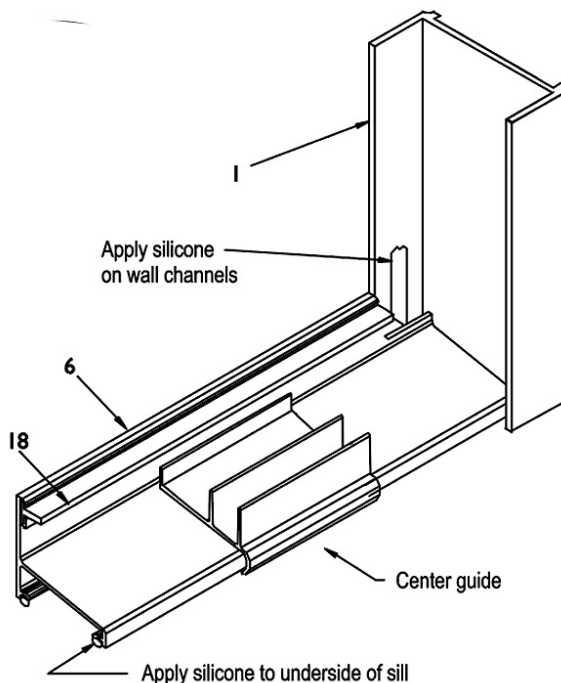

FIGURE 2
1. Set wall jamb (1) in place on walls, centering bottom of jambs on rim of tub. Hold plumb and mark walls for screw holes.
2. Remove and drill 3/16" diameter holes in walls (use a carbide tipped drill bit for tiles walls). Insert plastic wall anchors (2) into holes. Silicone where the wall meets the rim of the tub to seal the bottom of jamb. Set jamb in place and secure to the wall with #8 x 1-1/4" screws (3). Secure bottom bumper (4a) on shower head/inside side with the bottom wall jamb screw (3).
3. Cut sill (6) 7/16" smaller than the slider opening. Run a bead of silicone full length to the undersides of sill (6) and apply silicone to inside of jamb where jamb meets tub. On the inside of jamb, run an 1/4" bead of silicone 1-1/4" up the outside leg of each wall jamb (See Figure 2). Set sill in place, then press firmly to rim of tub. Wipe off any excess silicone before curing.
4. Hold 180-Degree post (19) in place over end of guide and measure from post to wall to arrive at curb channel length. Cut curb channel (20) to length and set in place weep holes(s) to inside. Apply a bead of silicone to underside of curb channel and insert post curb key (22) into end of curb channel.
5. Set wall channel (21) on curb channel, hold plumb and mark the wall for screw holes. Remove wall channel, drill holes into the wall and insert screw anchors. Fill curb channel with silicone where curb channel meets wall. Set wall channel in place and secure with #8 x 1-1/4" screws (3). Secure clip (23) to top inside leg of wall channel with #6 x 1/4" screw (27).
6. Place glass support block (24) in center of the curb channel. Set panel (25) into place in curb channel into wall channel. Using the vertical seal vinyl (26) tack panel into place.
8. Cut header (8) to length and set in place over jamb, post and wall channel. Hold post plumb and secure to INSIDE leg of header with #6 x 3/8" screw (13). Secure header at walls to INSIDE of leg jamb and to clip on the wall channel with #6 x 3/8" (13) to header and #6 x 1/4 (27) to wall channel.
9. Insert vertical seal vinyl (26) into wall channel, post and cut channel on both sides of panel.